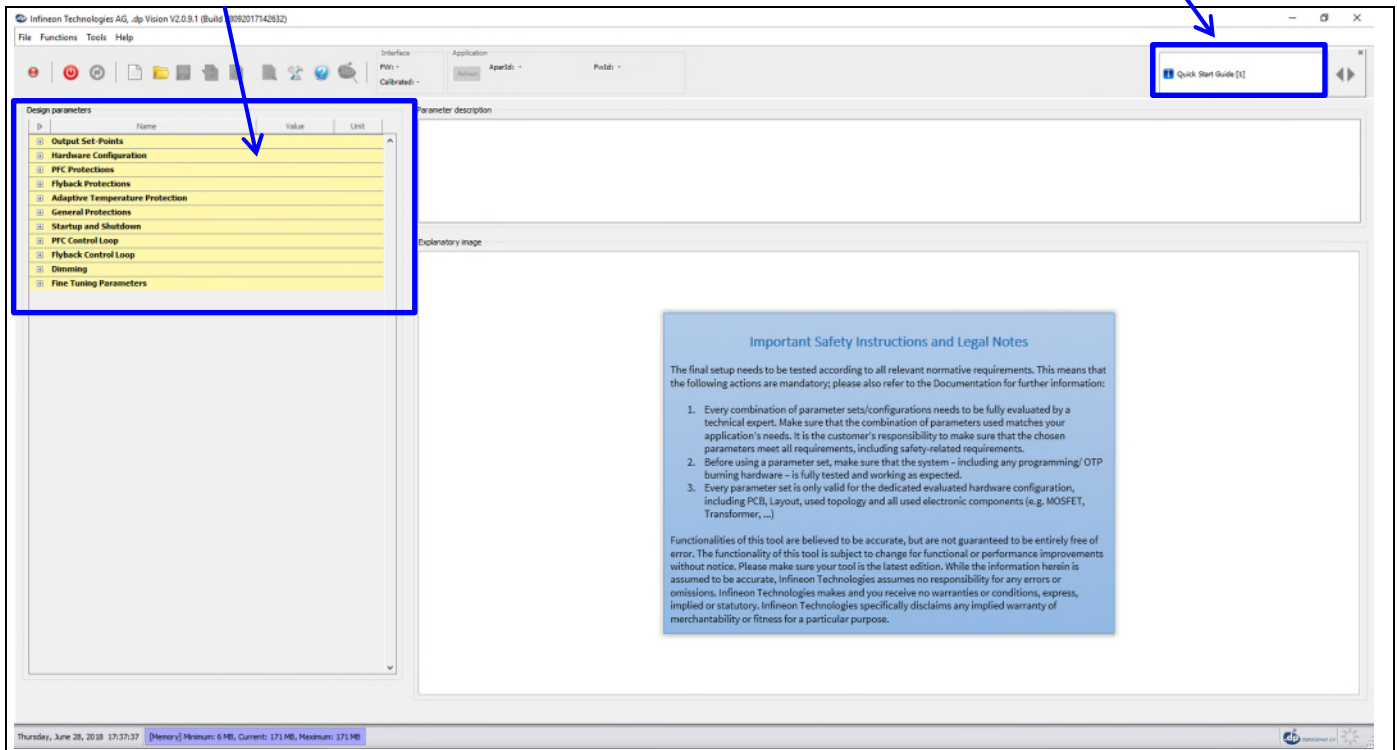

Figure 8 Parameters file loaded in .dp Vision
Load the XDPL8221 parameters configuration file (\*.csv) in the folder (HOME) \Infineon Technologies AG\ .dp vision\Parameters as shown in Figure 8. Please select the corresponding file (e.g., for a 50 W board choose the “XDPL8221\_FWvx.x.x\_50W” file).
After loading the parameters .csv file, a list of XDPL8221 configurable parameters will show (see the box on the left in Figure 8). These values can be modified by users and will turn blue.
**Note:** The message bar shown in Figure 8 provides detailed information. For further information, please refer to the “dpvision User manual”.
1	Open configuration file and change parameter value (see example in <a href="#">Figure 8</a> ).
1	Load configuration file (see example in <a href="#">Figure 8</a> ).